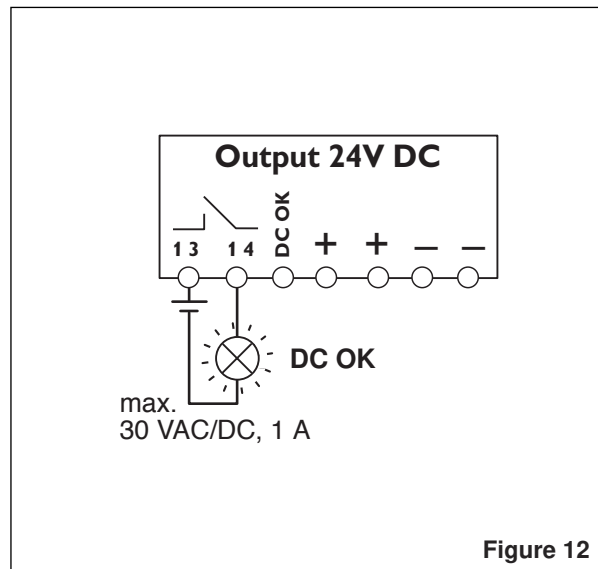

Figure 12
**Electrically Isolated Contact (Figure 12)**